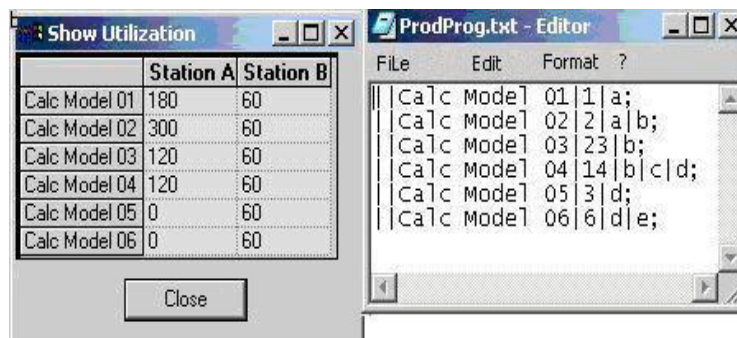

Figure 33: Display of the Utilization Results – External Calculation File
- The corresponding OPT codes are listed in the external calculation file. Please refer to the Figure 33.
- Conversely, neither of the two OPT codes are valid for either of the **calculation models five or six**; the process time is therefore zero: this means that if these variants of OPT codes are set, neither of these two processes are used for manufacturing. Please refer to the Figure 33.